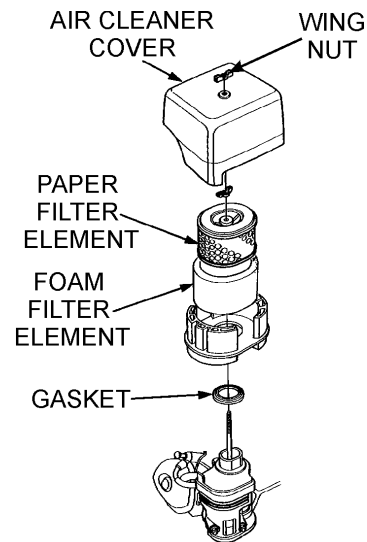

Figure 28. Engine Air Cleaner
1. Remove the air cleaner cover and foam filter element as shown in Figure 28.
2. Tap the paper filter element (Figure 28) several times on a hard surface to remove dirt, or blow compressed air [not exceeding 30 psi (207 kPa, 2.1 kgf/cm2)] through the filter element from the air cleaner case side. **NEVER** brush off dirt. Brushing will force dirt into the fibers. Replace the paper filter element if it is excessively dirty.